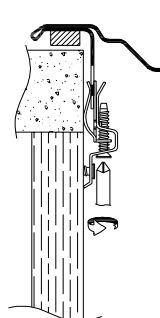

Fig 13
3. Tighten the clip extending screw to pull the sink firmly onto the worktop (fig 13)